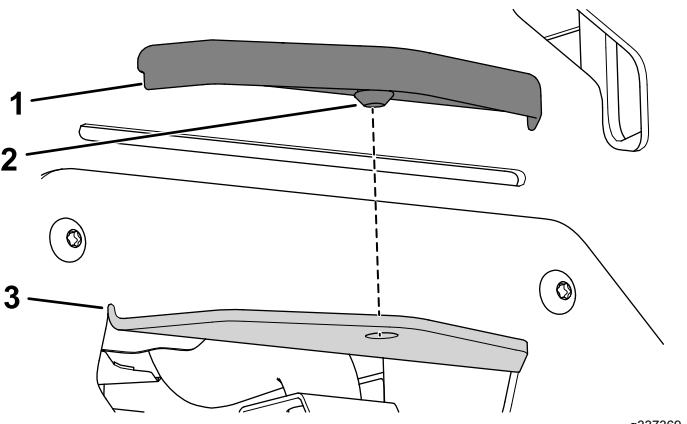

Figure 29
- 2. Align the hitch cover over the hitch and press it into place (Figure 29).